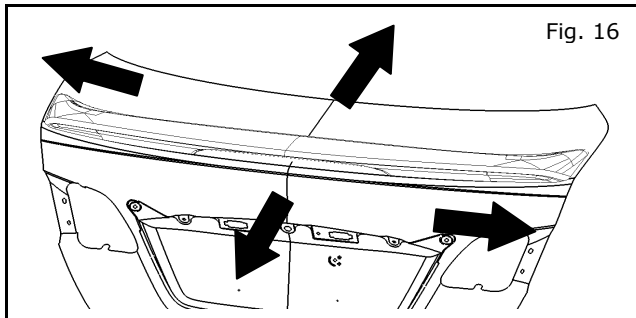

Fig. 16
- j) Using micro fiber cloth apply 15lbs of pressure on the spoiler to adhere the spoiler to the trunk lid. Pressure must be applied around entire perimeter of the spoiler. (Fig. 16)